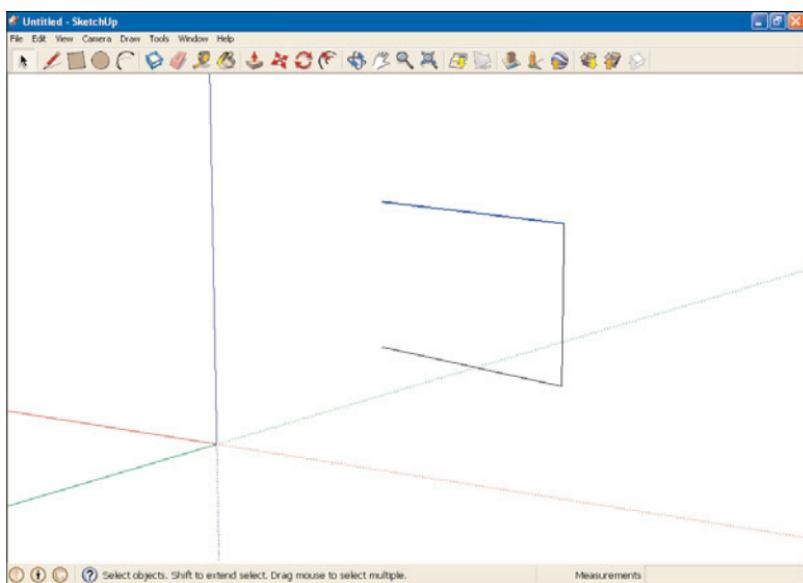

FIGURE 2.23 A new edge.
6. Release the mouse button to draw the third edge, as shown in Figure 2.23.